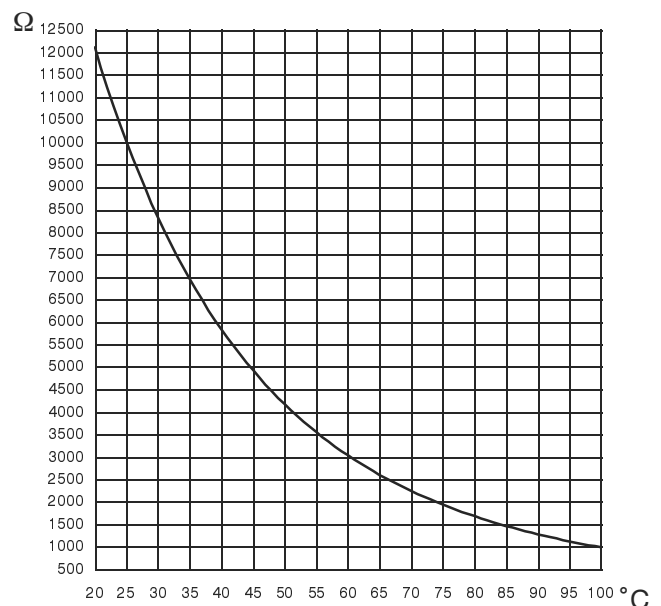

Fig. 20.3
- 2 Measure the Flue temperature probe NTC electrical resistance at the ambient temperature and check it according to the graph in Fig. 20.3